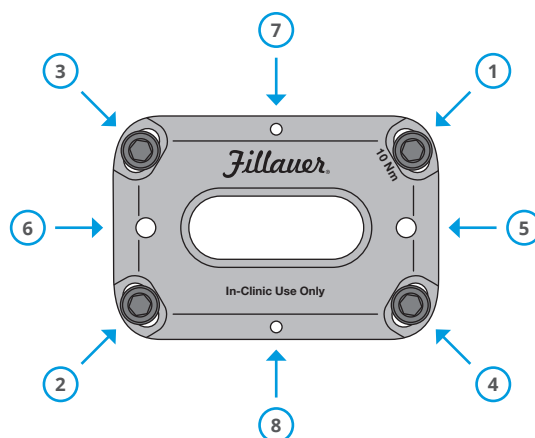

Figure 4
5. After the plaster is set, remove the socket from the foot by removing only socket head screws 1 – 4 in Figure 4. This will leave the surface of the foot exposed for direct bonding to the socket or transfer to a two-hole Posterior Mounting Bracket (180-10-2010) and will allow you to remove the bracket from the socket to clean that surface.